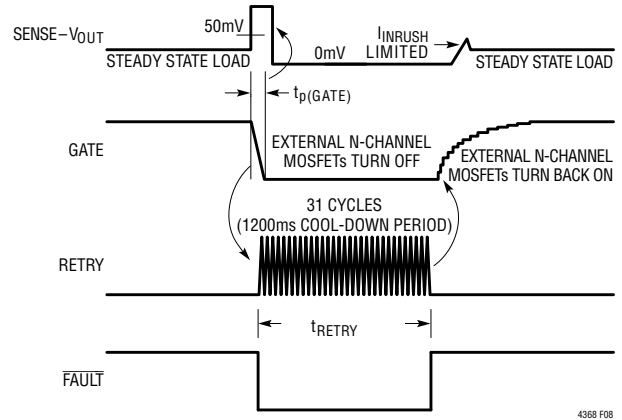

Figure 8. Forward Overcurrent Fault with $0.22\mu F$ RETRY Capacitor
1. Automatically restart by placing an external capacitor on the RETRY pin. An internal cool-down timer will charge/discharge this capacitor 31 times with a 5.5ms/nF total delay. At the end of this delay, the external MOSFETs are turned back on, thus reconnecting the load to the input supply. The $0.22\mu\text{F}$ capacitor (C_{RETRY}) in the application of Figure 7 yields a 1200ms cool-down timer delay. Note that the adjustable cool-down period provides the user with a means of keeping the external MOSFETs within the rated SOA (safe operating area). See Figure 8 timing diagram.